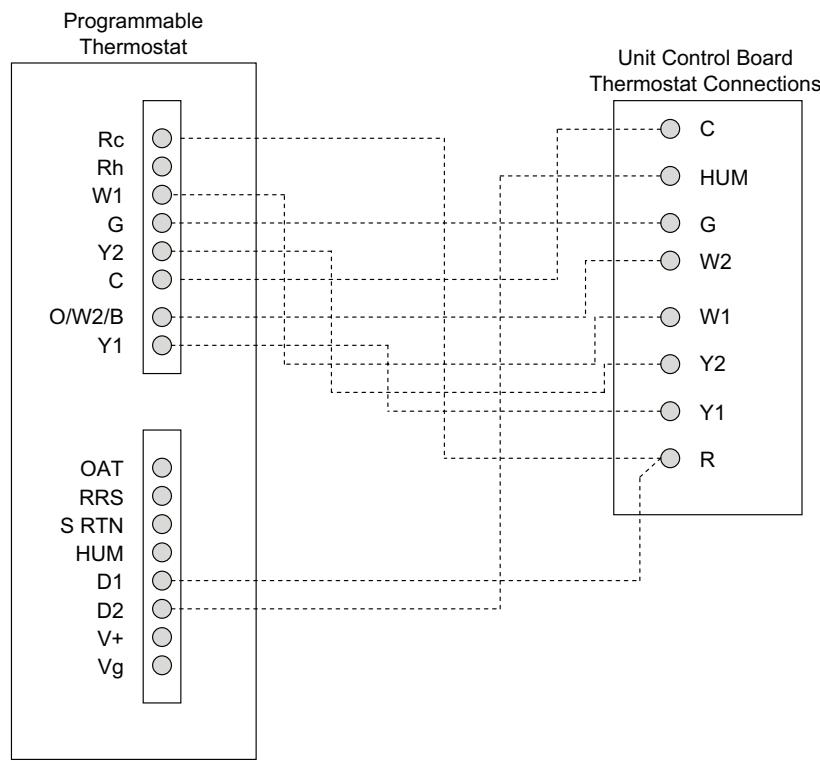

Fig. 43 — 50GC-*14 Unit with Humidi-MiZer Adaptive Dehumidification System with Edge® Pro Thermidistat Device
5. The Thermidistat has dry contacts at terminals D1 and D2 for dehumidification operation (see Fig. 43). Connect D1 to the R terminal on the UCB. Connect D2 to the HUM terminal on the UCB. Refer to the installation instructions included with the Carrier Edge® Pro Thermidistat device for more information.